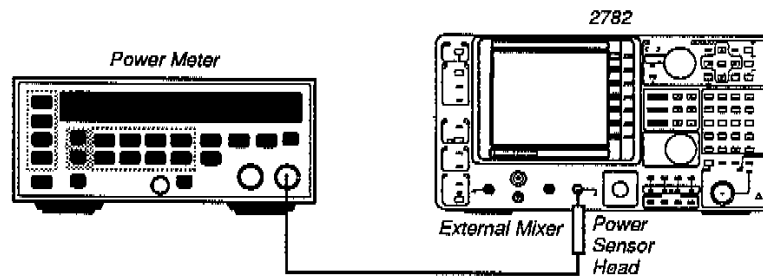

Figure 2-22. Test Equipment Connections for External Mixer Input LO Output Check.
- b. Remove the 50 Ω terminator from the 2782 EXTERNAL MIXER connector, and connect the power meter to that connector (as shown in Figure 2-22). Use the Hewlett-Packard HP 8481A power sensor head with the power meter. This sensor head requires an N-to-SMA connector.